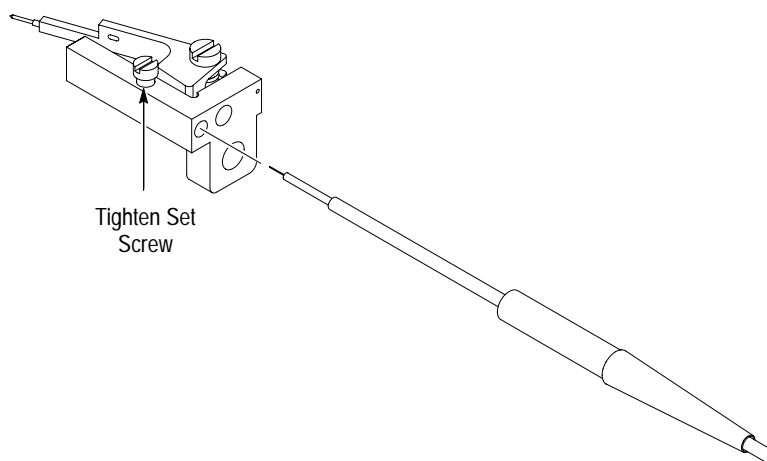

Figure 10: Securing SMD Probe in Ground Pin Assembly
3. After the probe is in position, gently tighten the set screw to hold the probe in place. See Figure 10.